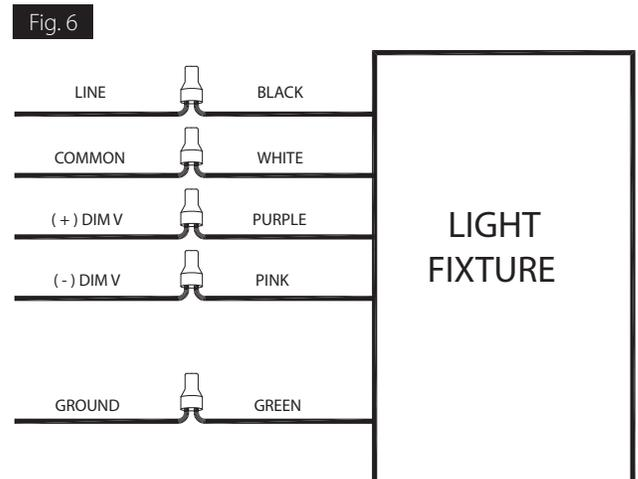

Fig. 6
6. Connect wires as shown in wiring diagram (Fig 6). Push all wires back into the **Splice Box**. Be careful not to pinch wires. **WARNING: To prevent wiring damage or abrasion, do not expose wiring to edges of sheet metal or other sharp objects.**
Universal voltage driver permits operation at 120V through 277V, 50 or 60 Hz. 0-10V control wires must be rated for 300V minimum. For 0-10V dimming follow the wiring directions shown below (Fig. 6).